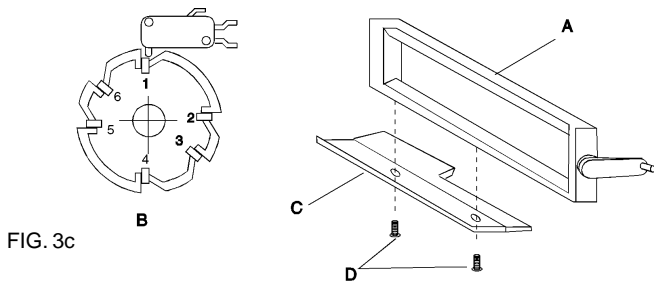

FIG. 3c
- replace the 4-slot cam with the special 6-slot cam (see Fig. 3c);